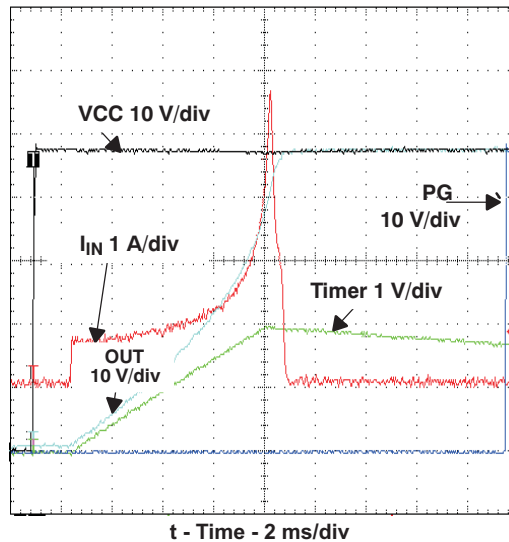
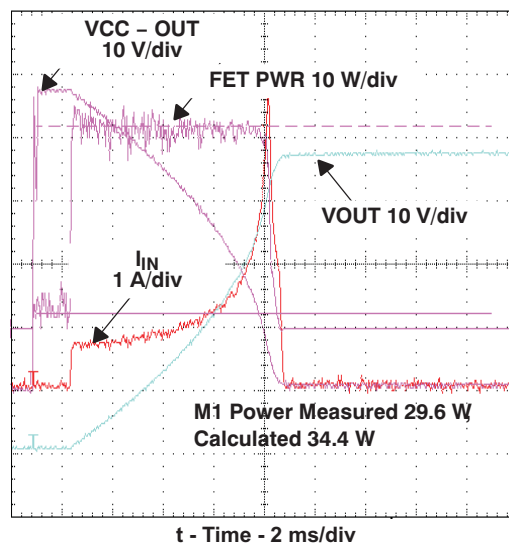
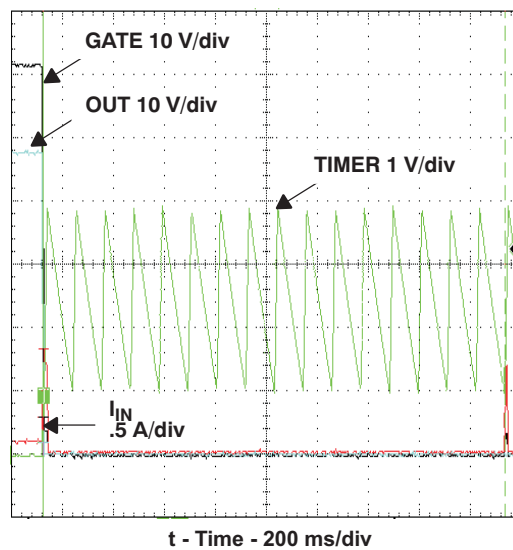

Figure 13. Basic Board Insertion
Figure 14. Computation of Q1 Stress During Startup
Figure 17. TPS2491 Restart Cycle Timing
A capacitor may be tied from PROG to ground to alter the natural constant power inrush current shape. If properly designed, the effect is to cause the leading step of current in Figure 13 to look like a ramp.
The typical application circuit, and oscilloscope plots of Figure 13 through Figure 17 demonstrate many of the functions described Device Functional Modes.
7.4.1 Board Plug-In (Figure 13)
7.4.2 TIMER and PG Operation (Figure 13)
7.4.3 Action of the Constant Power Engine (Figure 14)
The calculated power dissipated in Q1, $V_{DS} \times I_D$, is computed under the same startup conditions as Figure 13 . The current of Q1, labeled I_{IN} , initially rises to the value that satisfies the constant power engine; in this case it is $34\text{ W} \div 48\text{ V} = 0.7\text{ A}$. The 34 W value is programmed into the engine by setting the PROG voltage using Equation 2 given in the PROG. V_{DS} of Q1, which is calculated as $V_{(SENSE-OUT)}$, falls as C_O charges, thus allowing the Q1 drain current to increase. This is the result of the internal constant power engine adjusting the current limit reference to the GATE amplifier as C_O charges and V_{DS} falls. The calculated device power in Figure 14, labeled FET PWR, is seen to be flat-topped and constant within the limitations of circuit tolerance and acquisition noise. A fixed current limit is implemented by clamping the constant power engine's output to 50 mV when V_{DS} is low. This protection technique can be viewed as a specialized form of foldback limiting; the benefit over linear foldback is that it yields the maximum output current from a device over the full range of V_{DS} and still protects the device.
7.4.5 Automatic Restart (Figure 17)
A capacitor can be connected from the PROG pin to ground to reduce the initial current step seen in Figure 13 based on the 代表的なアプリケーション circuit. This method maintains a relatively fast turn-on time without the drawbacks of a gate-to-ground capacitor that include increased short circuit response time and less predictable gate clamping.